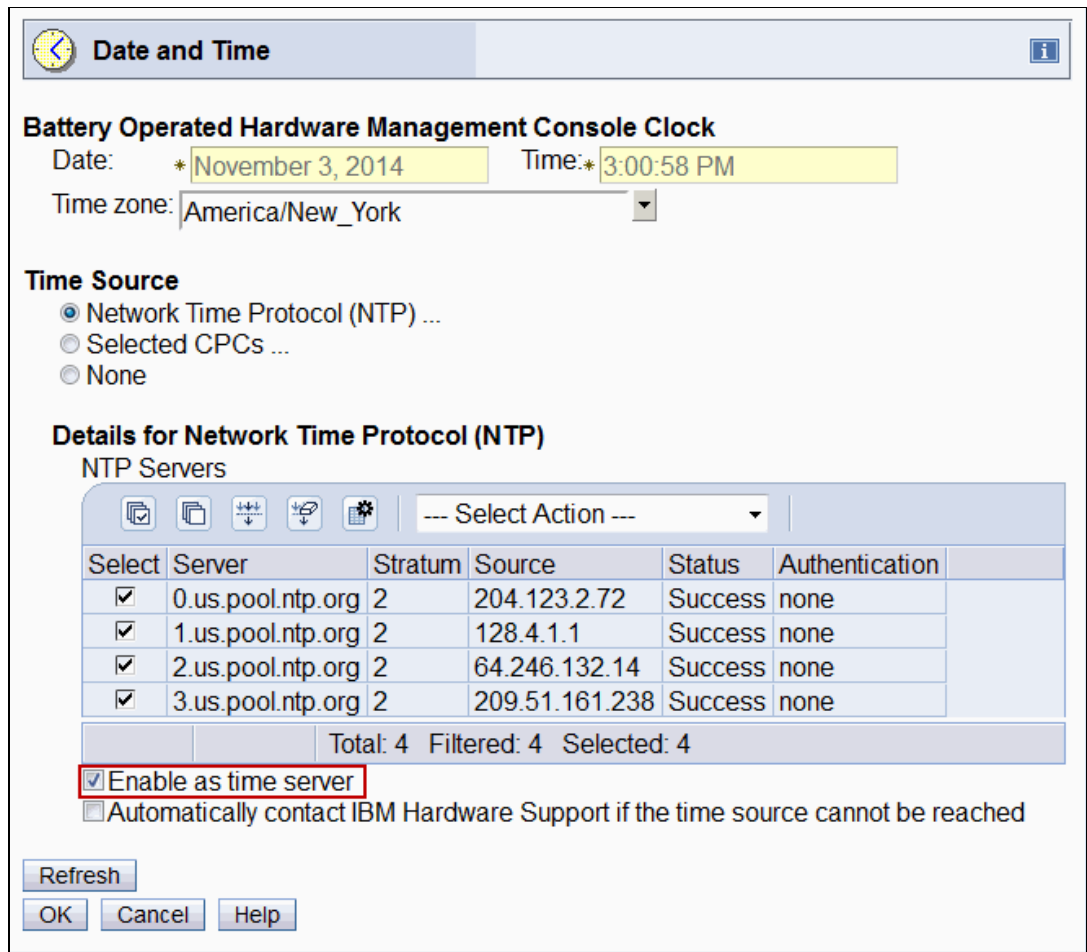

Figure 9-9 HMC: Customize Console Date and Time Configuring the NTP setting panel after you add the NTP server
- After you add NTP Servers to the HMC, the Customize Console Date and Time window is similar to Figure 9-9. After you complete the definition of all the NTP servers, select the **Enable as time server** check box and click **OK**.